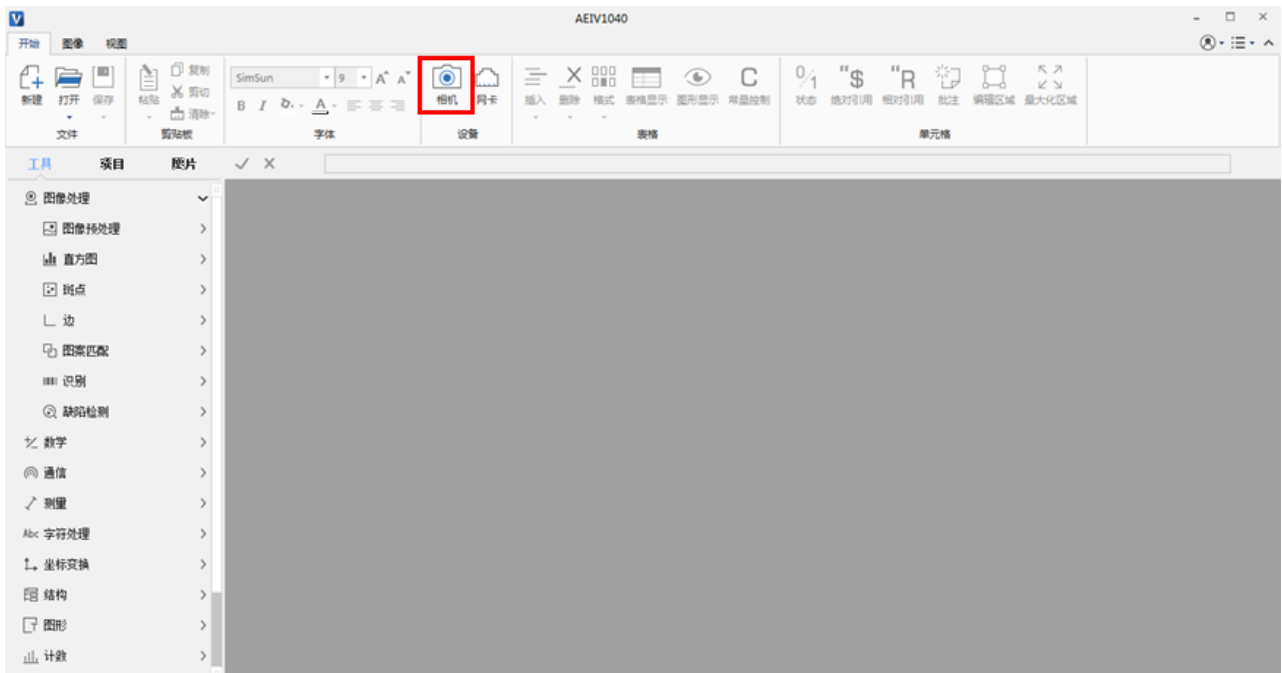

Figure 5-34 AEIV_studio software interface
- Step7. Open the visual software. Here we take Peitian's AEIV_studio software as an example for explanation. The main interface is as shown in Figure 5-34. Click the <Camera> button to check whether the calibration plate is in the center of the field of view on the main interface.